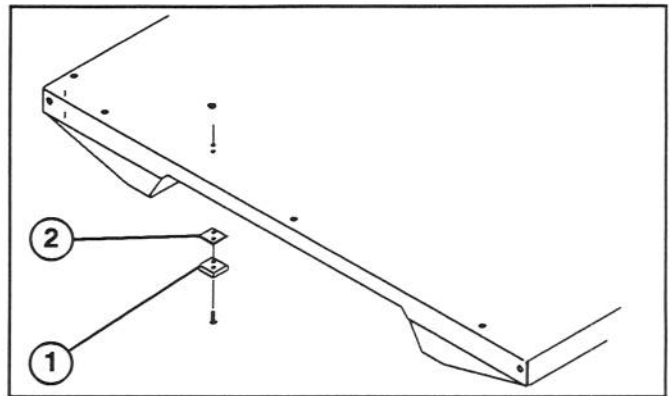

Figure 6
5. Remove machine screws and locknuts securing the (2) spacer blocks and shims to front, under side of bed (Fig. 6).